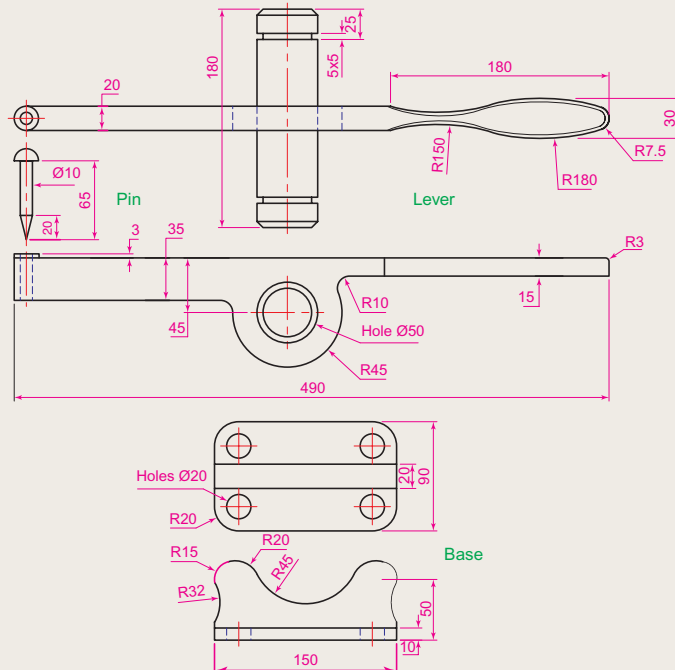
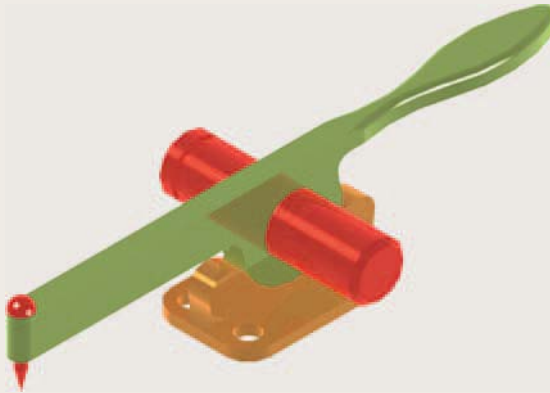

Fig. 17.38 Exercise 4 – details of shapes and sizes
Fig. 17.39 Exercise 4 – a rendering
4. A point marking device is shown in two two-view projections in Fig. 17.38. The device is composed of three parts – a base, an arm and a pin. Construct a 3D model of the assembled device and add appropriate materials to each part. Then add lighting to the scene and render in a **SW Isometric** view (Fig. 17.39).